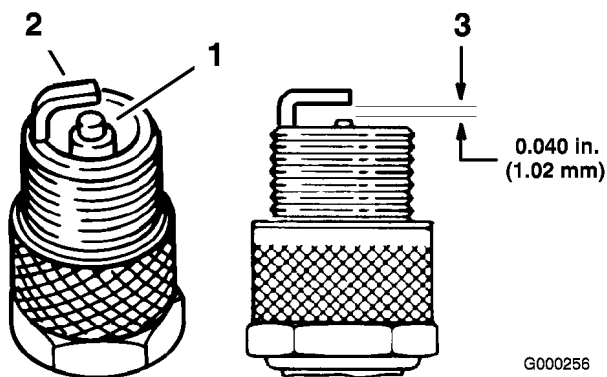

Figure 40
1. Look at the center of the spark plug(s) (Figure 40). If you see light brown or gray on the insulator, the engine is operating properly. A black coating on the insulator usually means the air cleaner is dirty.
2. Check the gap between the center and side electrodes (Figure 40). Bend the side electrode if the gap is not correct.